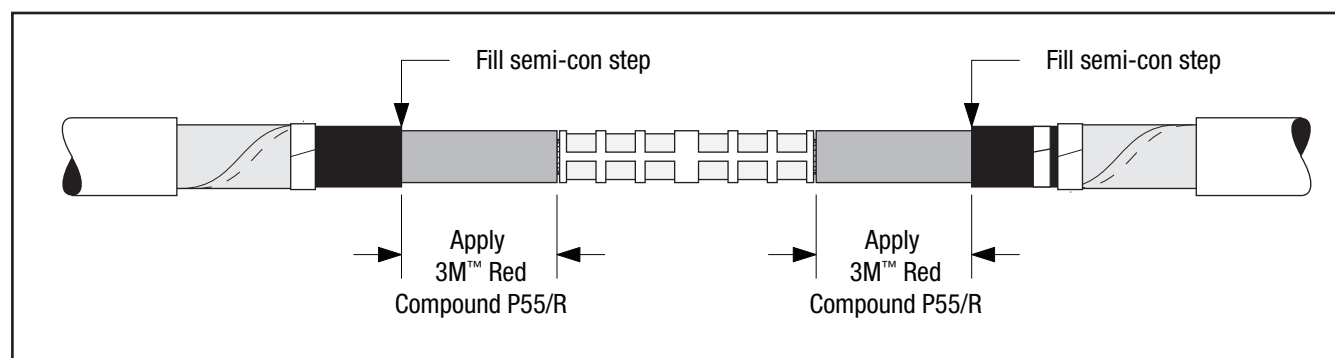

Figure 12
- 4.4 Apply 3M Red Compound P55/R on cable insulations, making certain to fill in edge of cable semi-con. **Do not use silicone grease** (*Figure 12*).